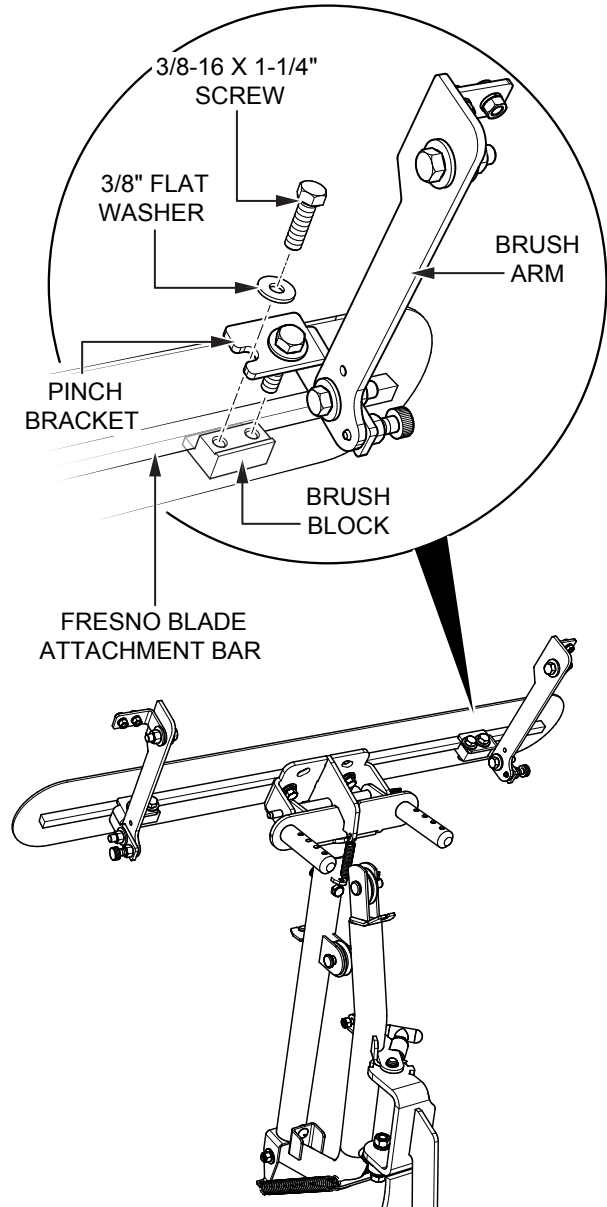

Figure 22. Brush Arm Attachment
Refer to Figure 22.
1. Using a 9/16" wrench, slightly loosen the 3/8-16 x 1-1/4" screws (Figure 22) that secure the pinch bracket, brush block, and brush arm together.